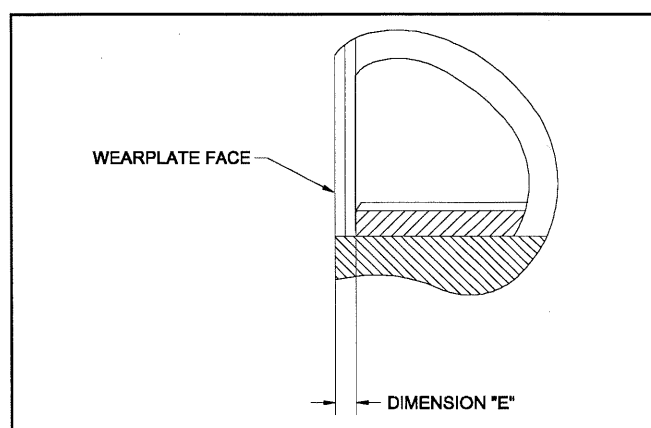

Figure 1: Bearing Insertion Depth
2. After bearing insertion, bearings must be below the wearplate face of the body or cover to dimension "E" as shown in Table 1 and Figure 1.